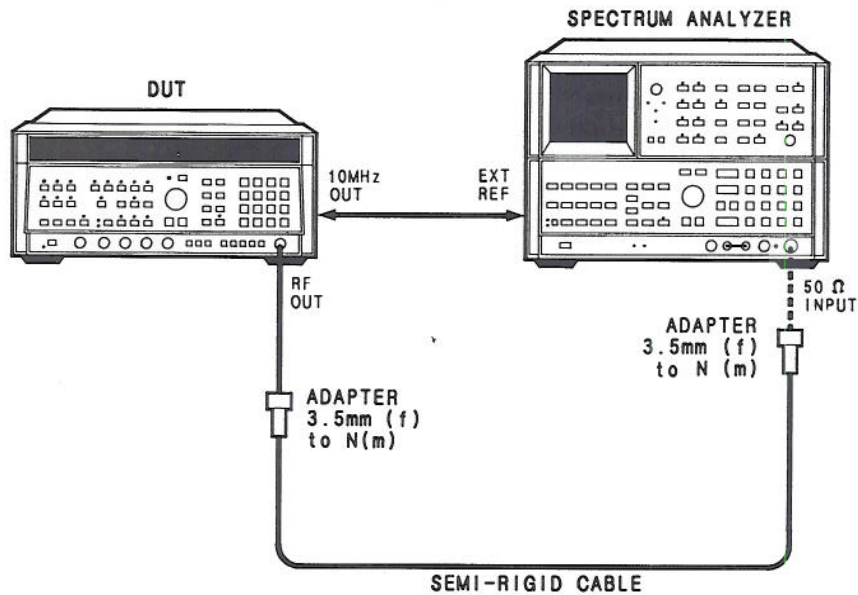

Figure 4-7. Spurious Signals Test Setup
1. Connect equipment as shown in Figure 4-7. The position of the DUT can affect spurious responses; therefore, place the DUT in its normal operating position (i.e., flat on its feet) for this test. Allow the instruments to warm up for one hour.